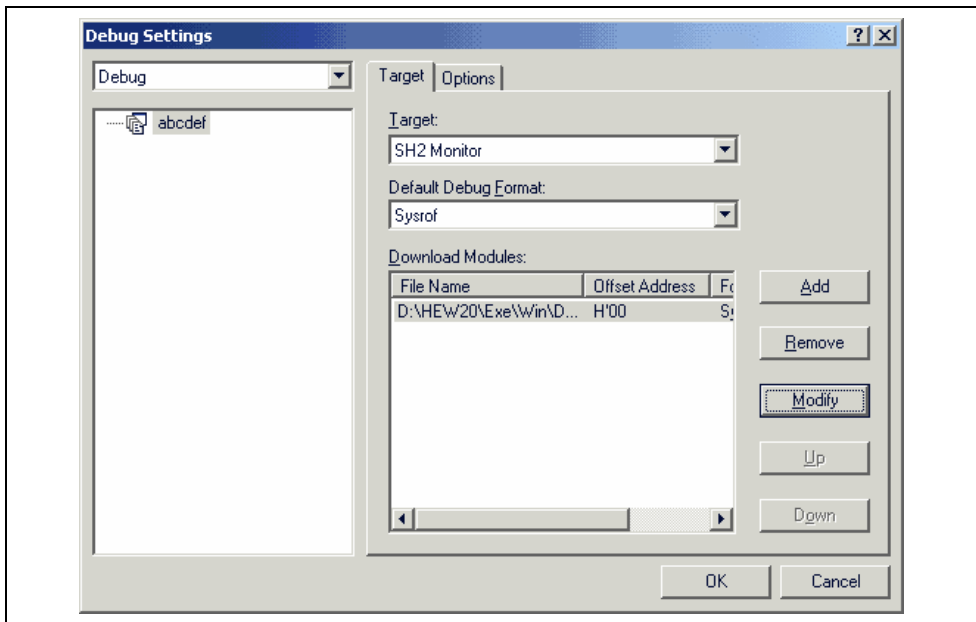

Figure 3.16 Debug Settings Dialog Box ([Target] Sheet)
It is also possible to manually choose the download modules after the project creation. This is achieved via the [Debug Settings] dialog box shown in figure 3.16. This dialog box allows you to control the debug settings throughout your workspace. The tree on the left of the dialog box contains all of the current projects. Selecting a project in this tree will then show you the settings for that project, and the session selection in the session drop-down list. Multiple sessions or all sessions in this list box can be selected. If you select multiple sessions, you
1. Select [Options -> Debug Settings...]. The dialog box shown in figure 3.16 will be displayed.